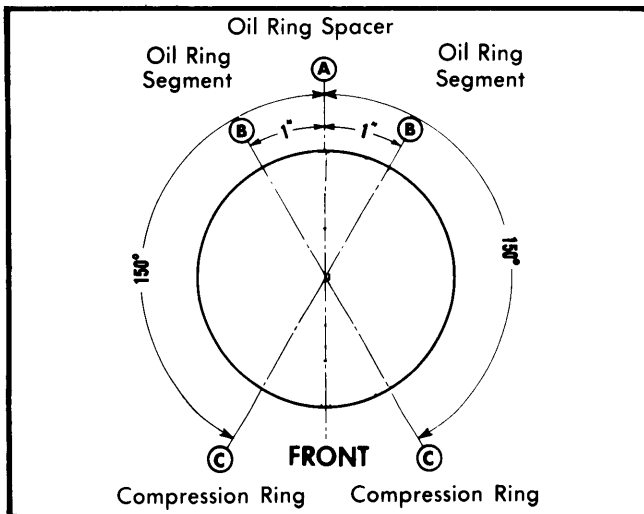

Fig. 8 Correct Spacing for Piston Ring Gaps
**Installation** — Lightly coat cylinder bores, pistons and rings with engine oil. Ensure that ring gaps are properly spaced (see Fig. 8). Compress piston rings with a suitable ring compressor. Install each piston and rod assembly in cylinder bore with notch on piston toward front of engine and numbered side of rod facing away from camshaft. Guide connecting rod onto crankshaft journal while tapping piston head with a hammer handle to seat connecting rod bearing against crankshaft. Install connecting rod cap, aligning numbers. Tighten nuts to specification.